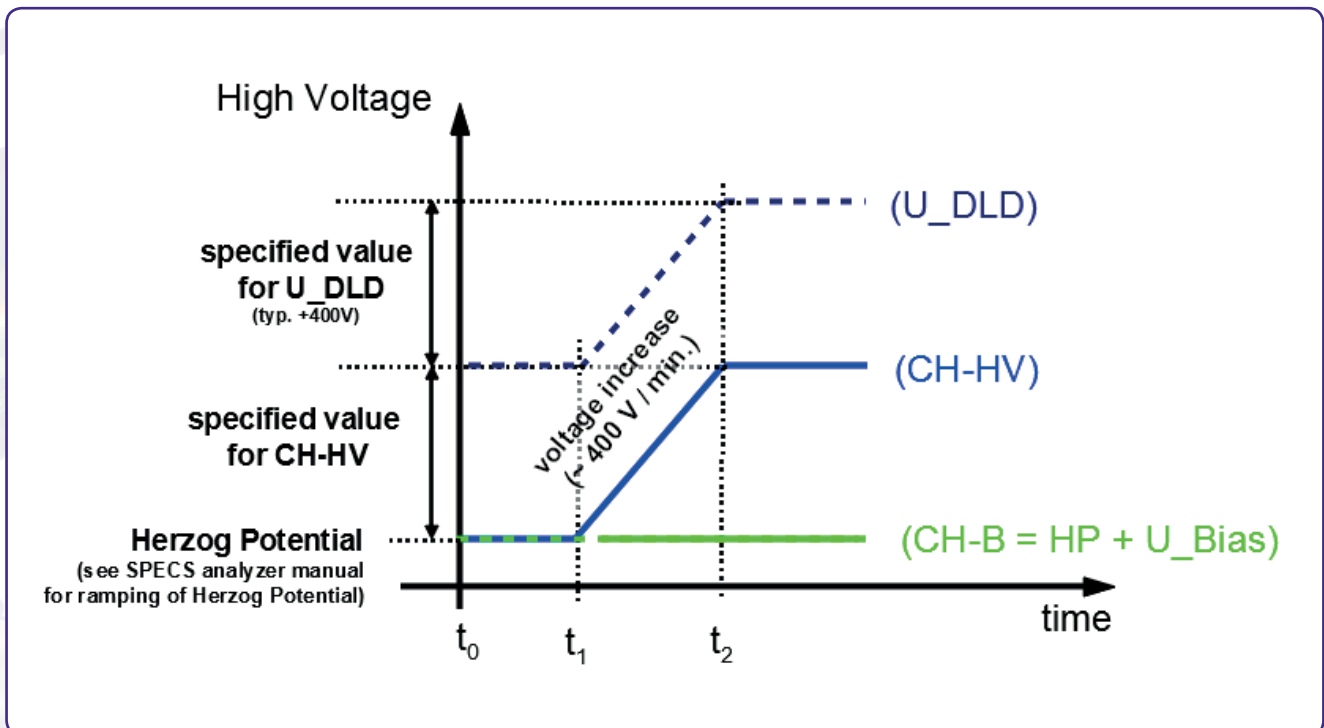

Figure 5: Schematic sketch on voltage ramping during “Start-Up” procedure. See the SPECS Analyzer manual for ramping of the Herzog Potential.
- Turn on the high voltage carefully. The voltage increase should not exceed 400V per minute. A schematic sketch on how to ramp the voltages during the "Start-Up" procedure is given in **Figure 5**. The starting operation voltage is specified in the specification sheet of the detector.